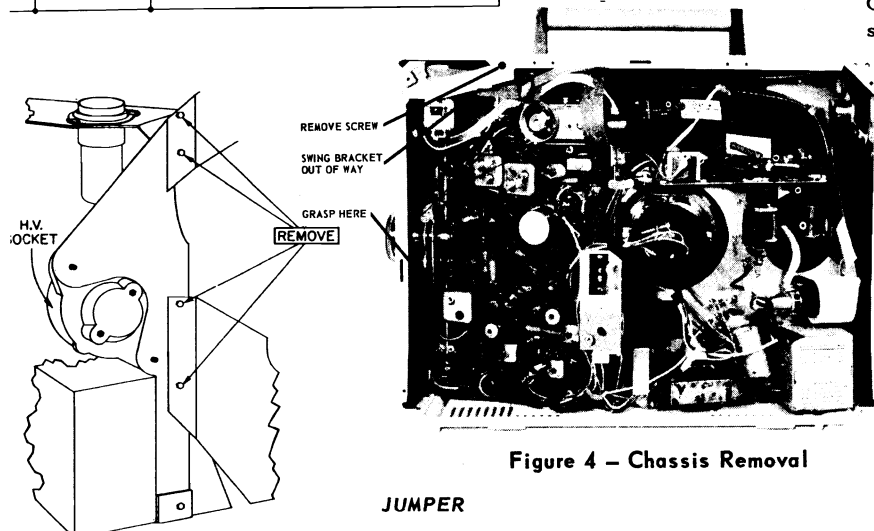

Figure 1 - Bracket Removal.
2. Remove the 4 screws shown in Figure 1, labelled, "Remove."